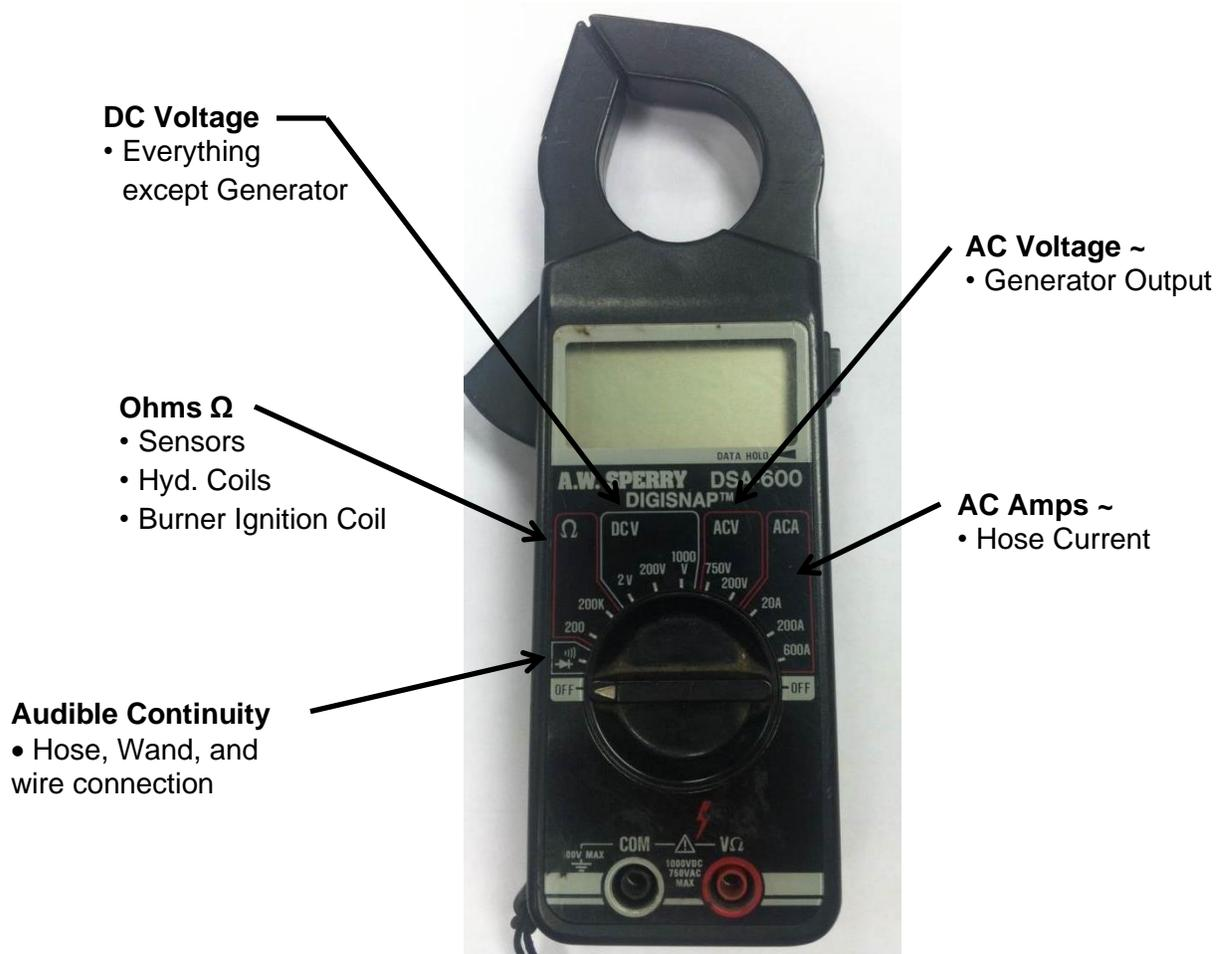

Fig. 7-2 Clamp – On Amp Meter/Multimeter
The electric hose and wand uses 24-volt 3-phase alternating current (AC). The AC power is from the generator which hangs under the radiator. This system has no reference to ground so there is no possibility of electrical shock unless you are between 2 of the phases. **NOTE: ONLY CHECK AMPERAGE ON A HOSE WITH A CLAMP-ON AMP METER.** (See Fig. 7-2 Clamp – On Amp Meter/Multimeter)
The Multimeter can be used to check amperages under 10 amps in AC or DC current. When checking the amperage of the electric hose **always use a clamp-on amp meter**. (See Fig. 7-2 Clamp – On Amp Meter/Multimeter) The amperage in the hose can reach as high as 35 amps. Clamp the meter around one wire at a time. Remember most clamp-on meters do not work on DC current.